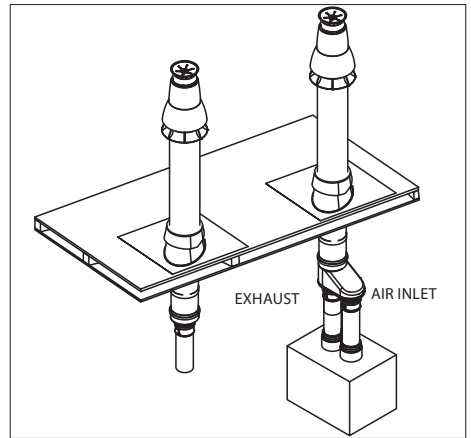

Figure 18
9. Connect Co-Linear Adapter to termination (if applicable). (**Fig.18**)